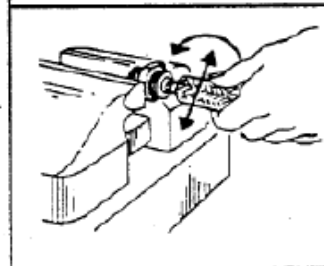

Figure 4
6. Install the sleeve between the braid and the Teflon tube. Make sure that none of the braid is trapped between the Teflon and the sleeve. Bottom the tube against the shoulder of the sleeve and make sure that the sleeve is inserted square. **(Figure 4)**